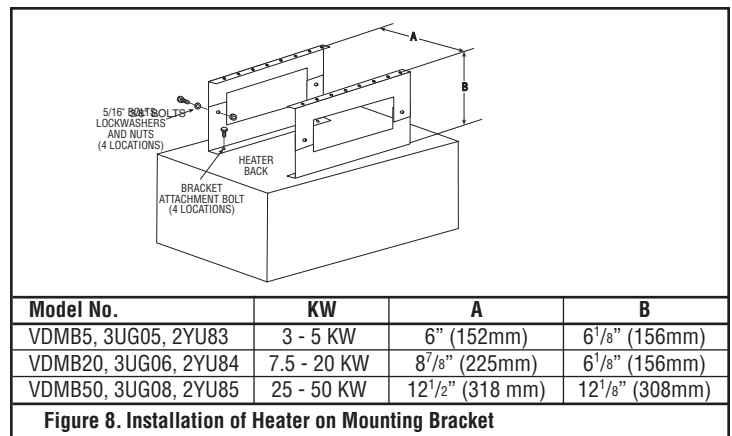

Figure 8. Installation of Heater on Mounting Bracket
1. Locate the position of the vertical discharge mounting bracket. Refer to Figure 4 for minimum mounting clearances. Refer to Figure 8 for bracket dimensions.
4. Bolt the unit mounted brackets to the ceiling mounted brackets using the 3/8" bolts, split lockwashers and nuts provided. See Figure 8.